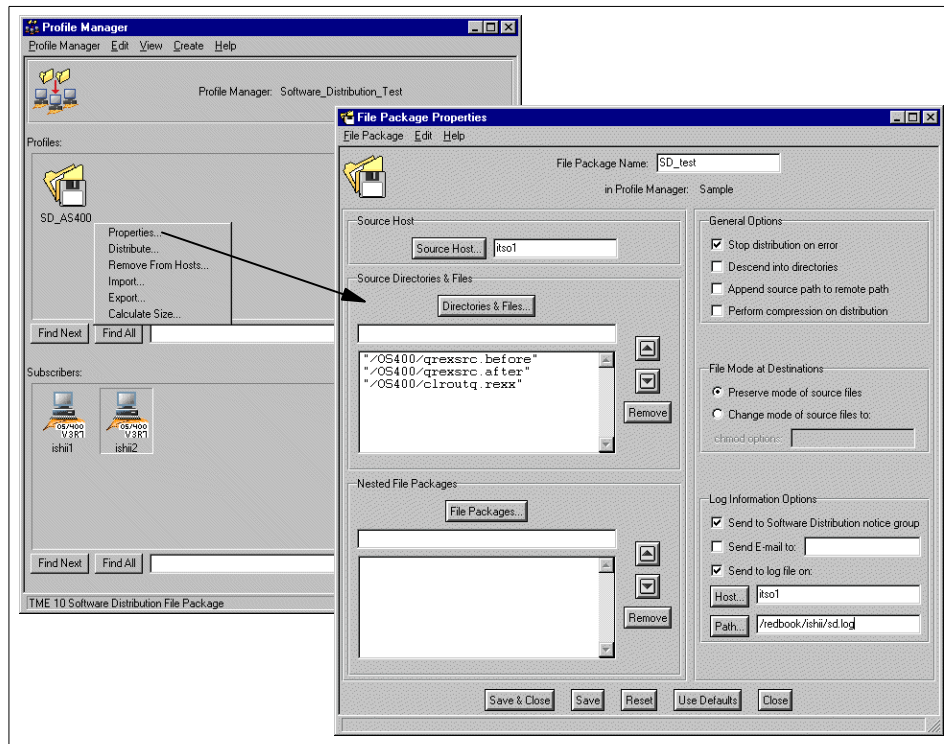

Figure 252. Configuring file package properties
4. We have created a profile for the distribution of the AS/400 BARC (configuration) scripts. We need to configure the specific options for this profile. The configurations can be done with two screens as shown in Figure 252 on page 410.